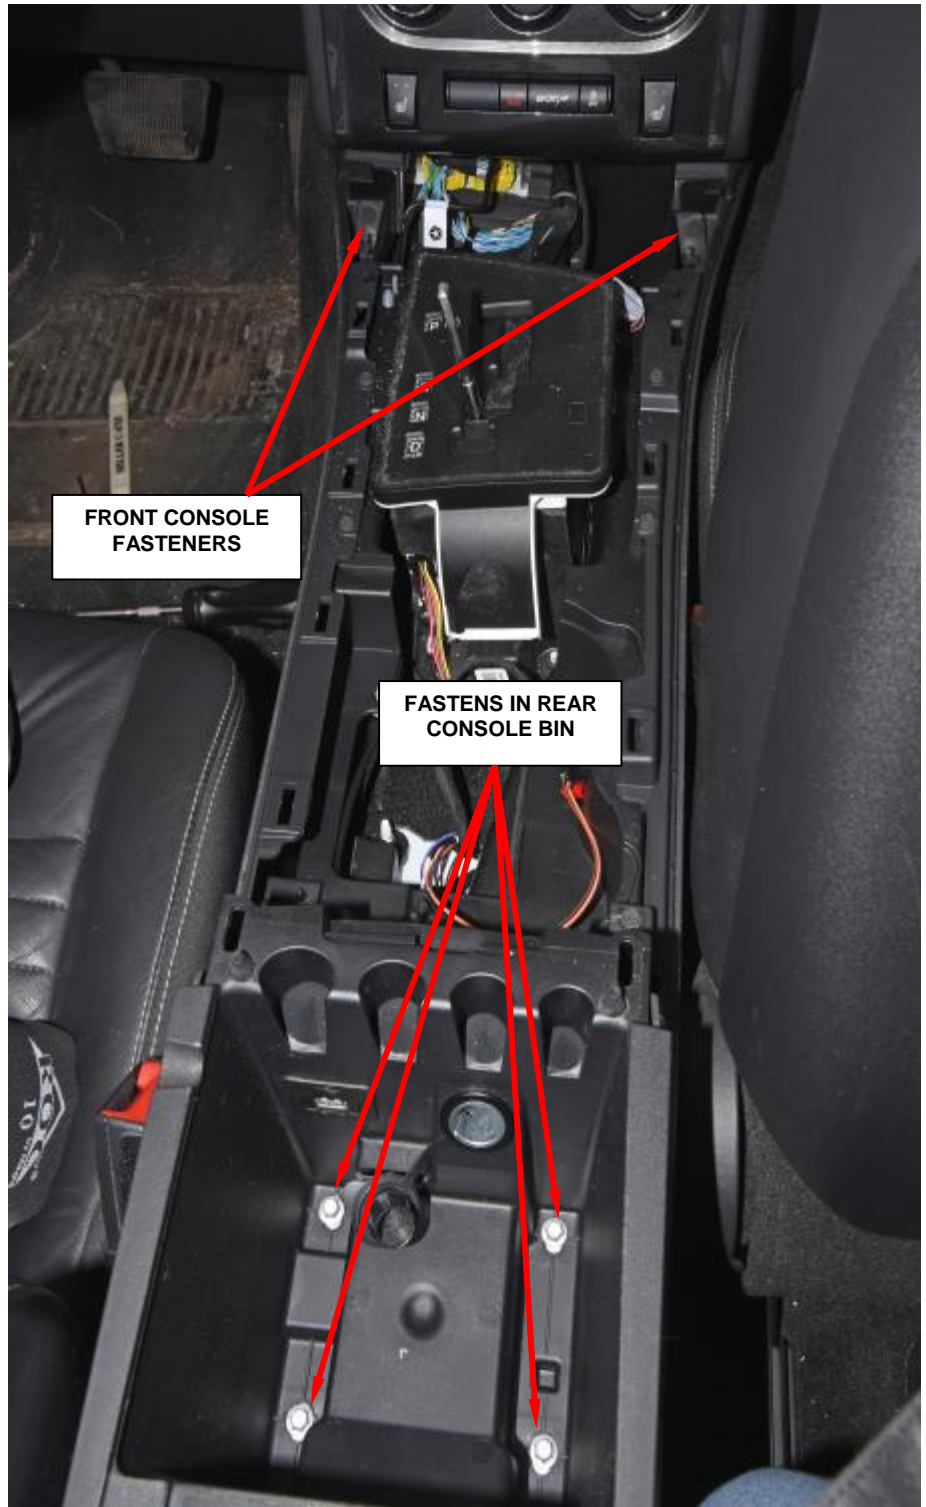

Figure 52 – Floor Console
13. Remove the four fasteners from the rear bin that secure the console to the floor panel transmission tunnel (Figure 52).
14. Remove the two fasteners that secure the front of the console to the instrument panel (Figure 52).